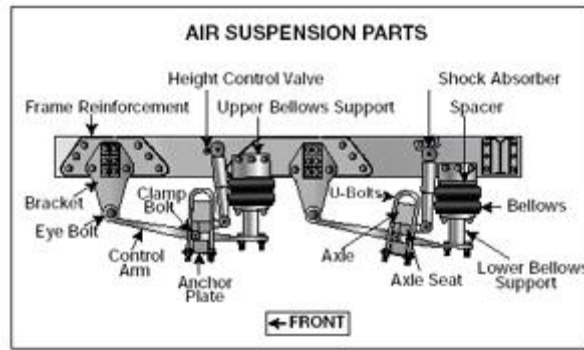

Figure 2-4
- Air suspension systems that are damaged and/or leaking. See Figure 2.4.